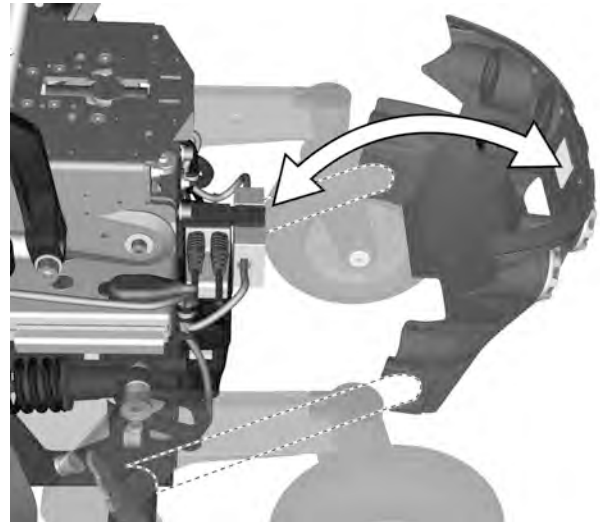

Figure 8. The chassis rear cover.
3. Fasten it on the hook and loop fastener by pressing on rear edge of the chassis cover (with a click). See fig. 8.